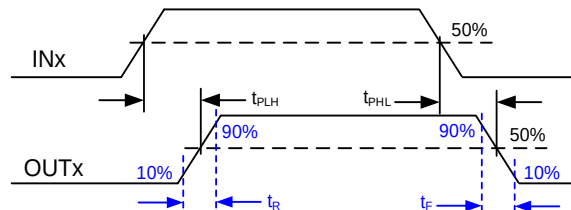
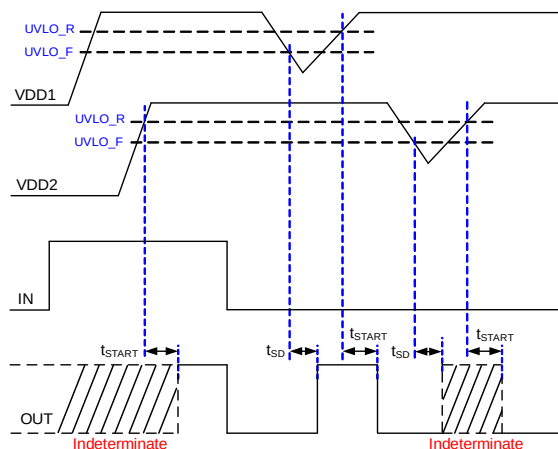

Figure 4: Propagation Delay Time
Figure 5: UVLO and Output Delay
- 11) See Figure 4 and Figure 5 on page 20, and Figure 6 on page 21 for more details.
All channel signals have a Schmitt trigger input to enhance noise immunity. At the same time, all channels going in the same direction are optimized for propagation delay matching. This function can be used for serial peripheral interface (SPI) isolation, with an excellent channel-to-channel skew. Figure 4 shows the propagation delay time.
The outputs stay at a high impedance during start-up until the corresponding V_{DDx} exceeds its UVLO threshold for the set time period (t_{START}). After this period, the outputs follow the state of the inputs. Figure 5 shows the UVLO delay function.